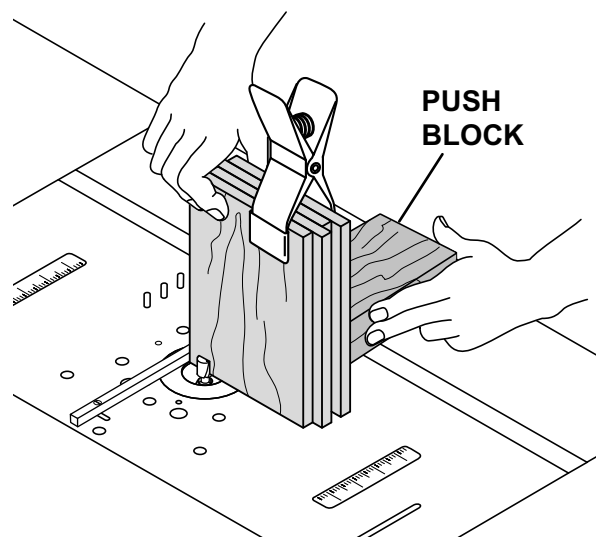

Figure 52
- Clamp pieces of wood together. Run through router on each side. Sides come out even every time. See Figure 52.